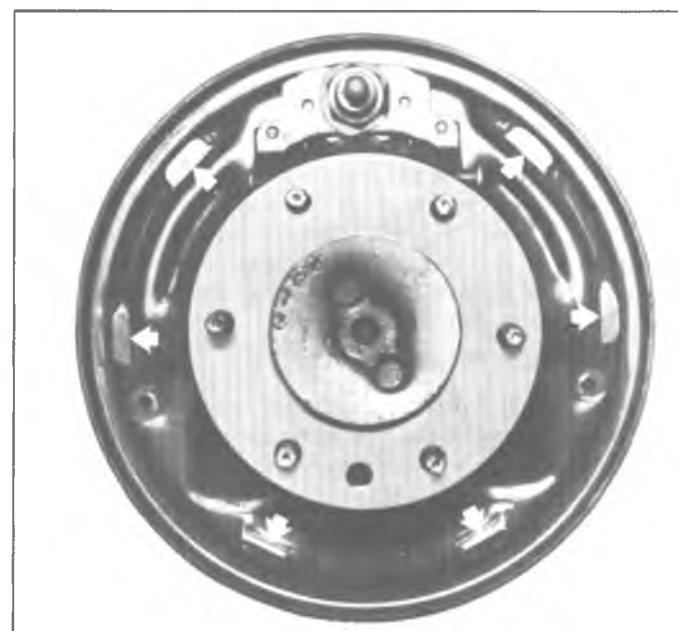

Fig. 48-Flange Plate Contact Surfaces
4. Check all brake flange plate attaching bolts to make sure they are tight. Clean all rust and dirt from shoe contact faces on flange plate (fig. 48), using fine emery cloth.